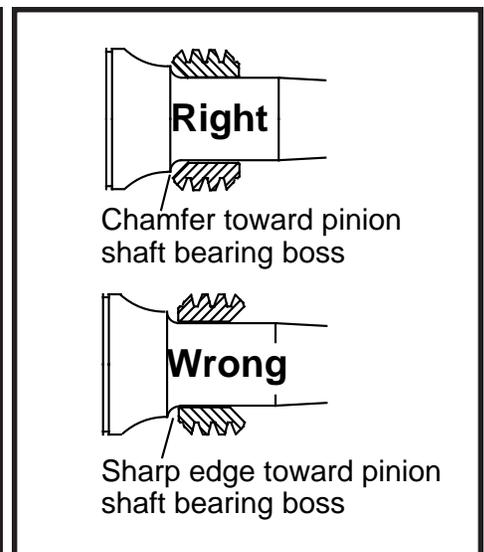

Figure 10
- Be sure oil pump drive gear is installed with chamfered side toward pinion shaft bearing boss. See **Figure 10**.
CAUTION - If oil pump drive gear is installed with sharp edge against radius on pinion shaft bearing boss, sharp edge may nick radius. This can result in a stress riser that may cause shaft to break. See **Figure 10**.